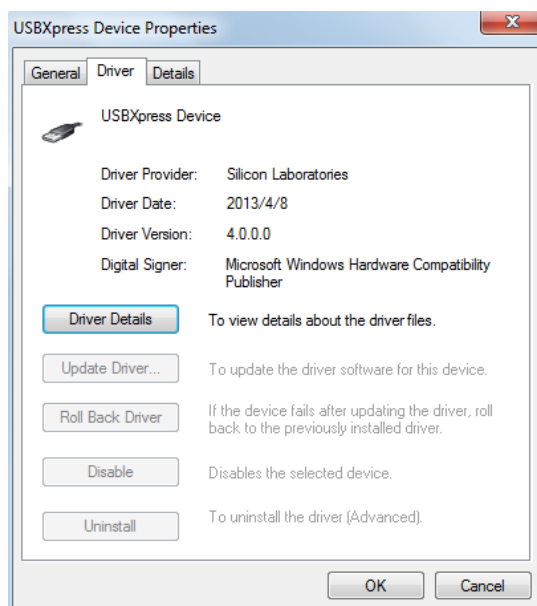

Figure 18: Correct Driver Version
If the PC is running Windows 10, check the driver version of USBXpress Device. Windows 10 automatically installs the older USB driver, which is not compatible. The correct driver version is 4.0.0.0 (see Figure 18).
2. Connect the EVKT-USB2C-02 or EVKT-USBSP1-00 communication interface to the PC with a USB cable (see Figure 18 on page 16).